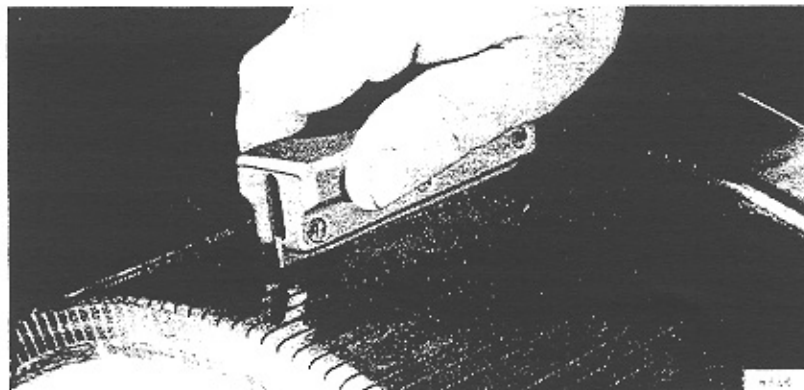

Fig. 15 - Cleaning Commutator Slots
8. When the depth of the mica undercut between copper bars is less than 1.2 mm ($3/64$ "), use commutator slot file, Fig. 15 to undercut the mica to proper depth. Do not exceed the undercut maximum depth of 2 mm ($5/64$ ").